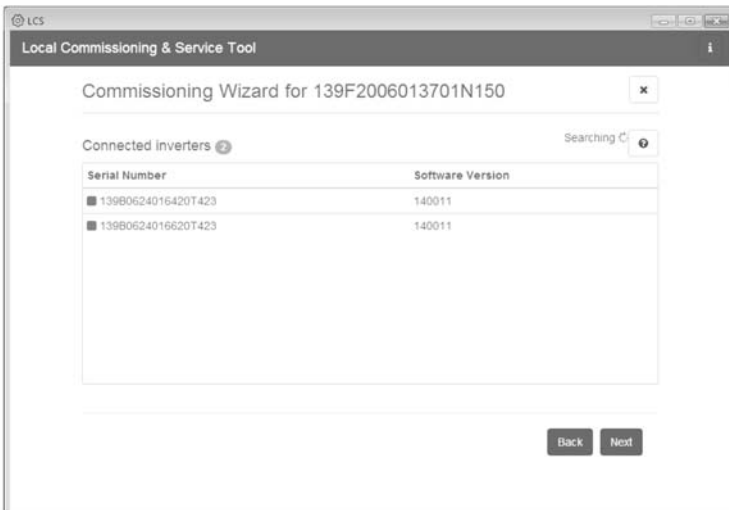

Figure 5.5 LCS tool - list of the connected inverters
- 6. A list of the identified inverters of the selected Inverter Manager is displayed. See figure 5.5.